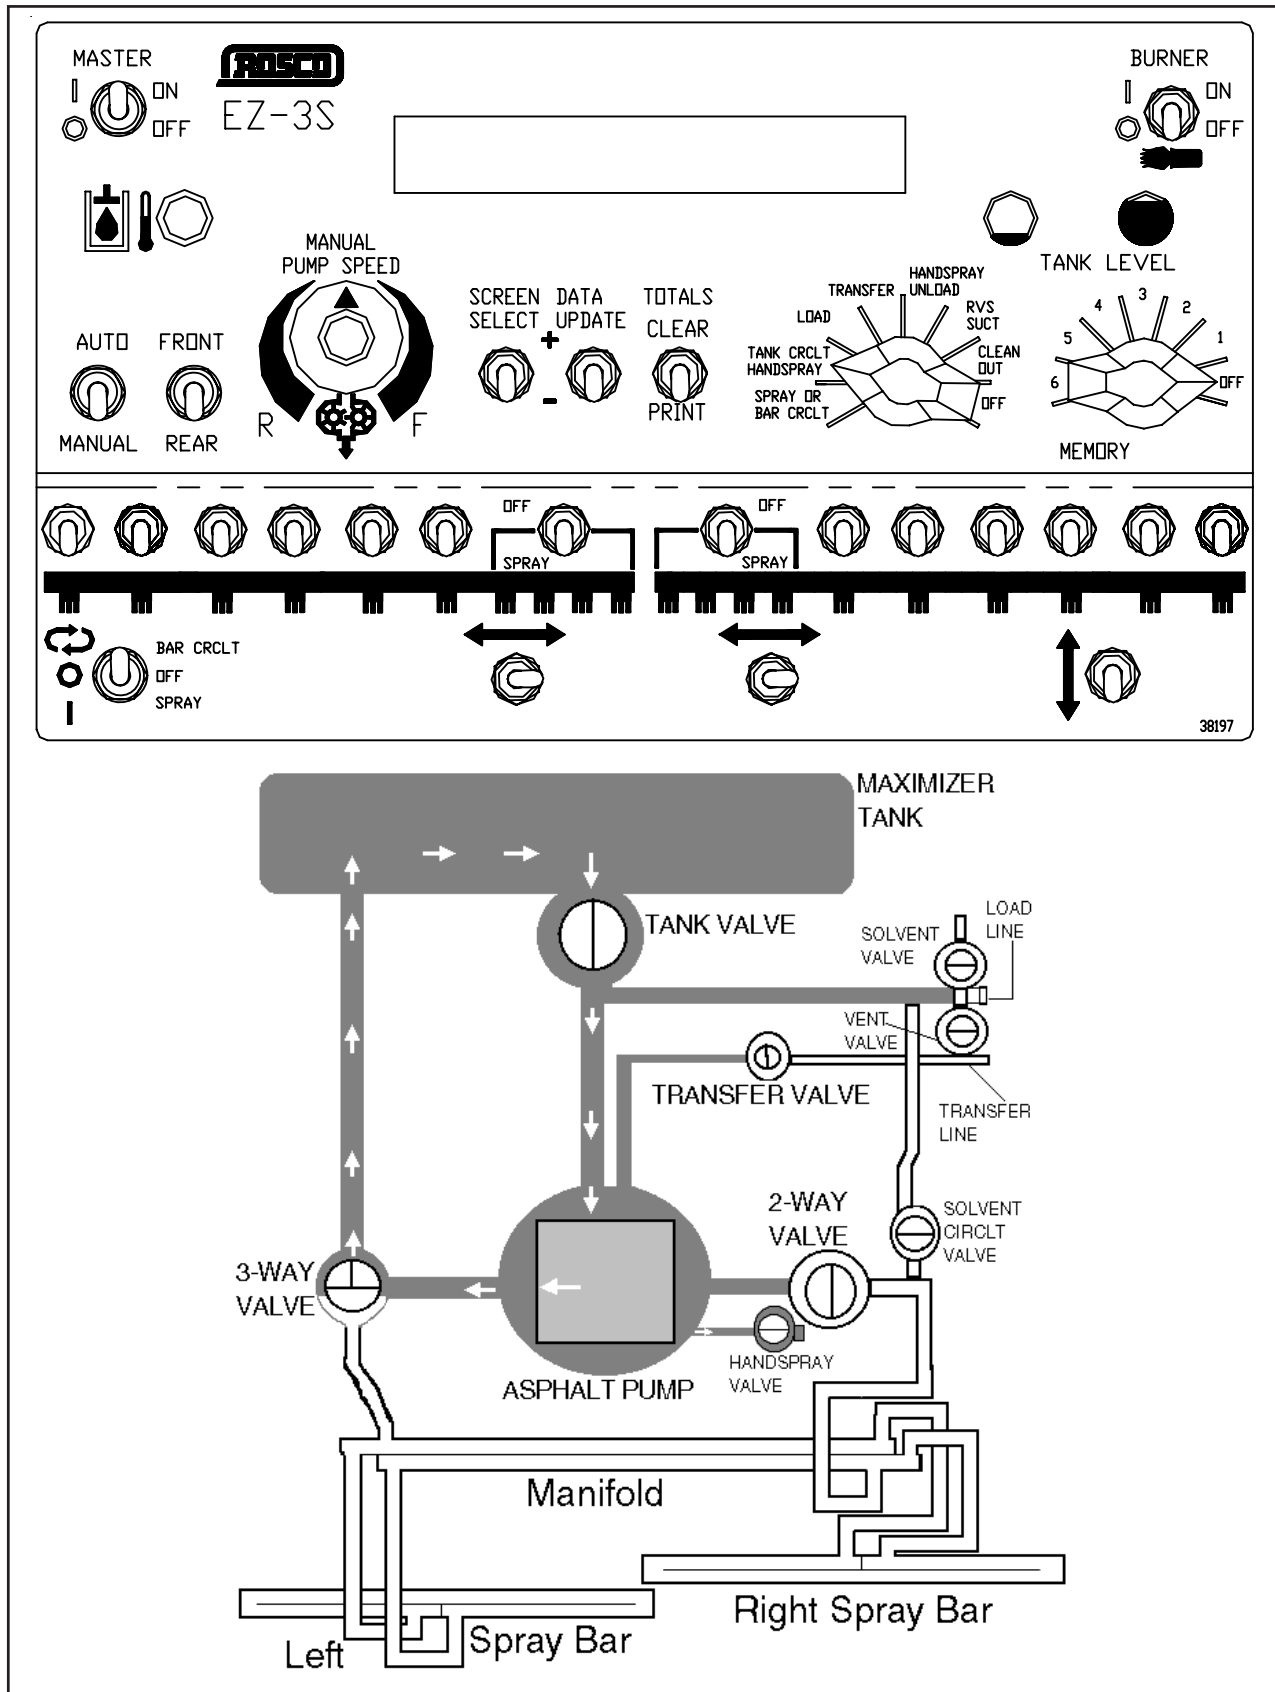
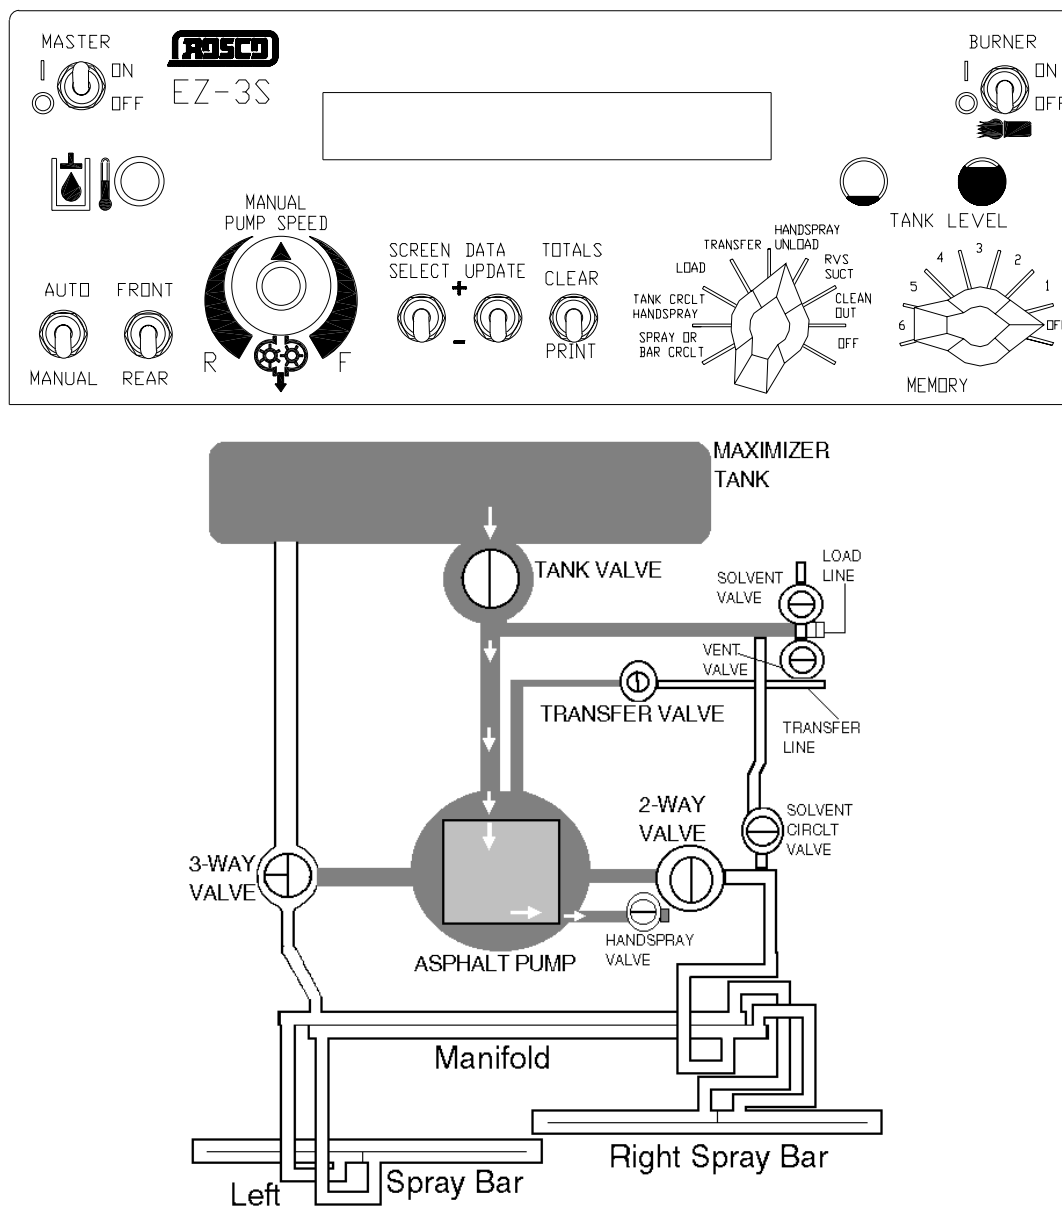
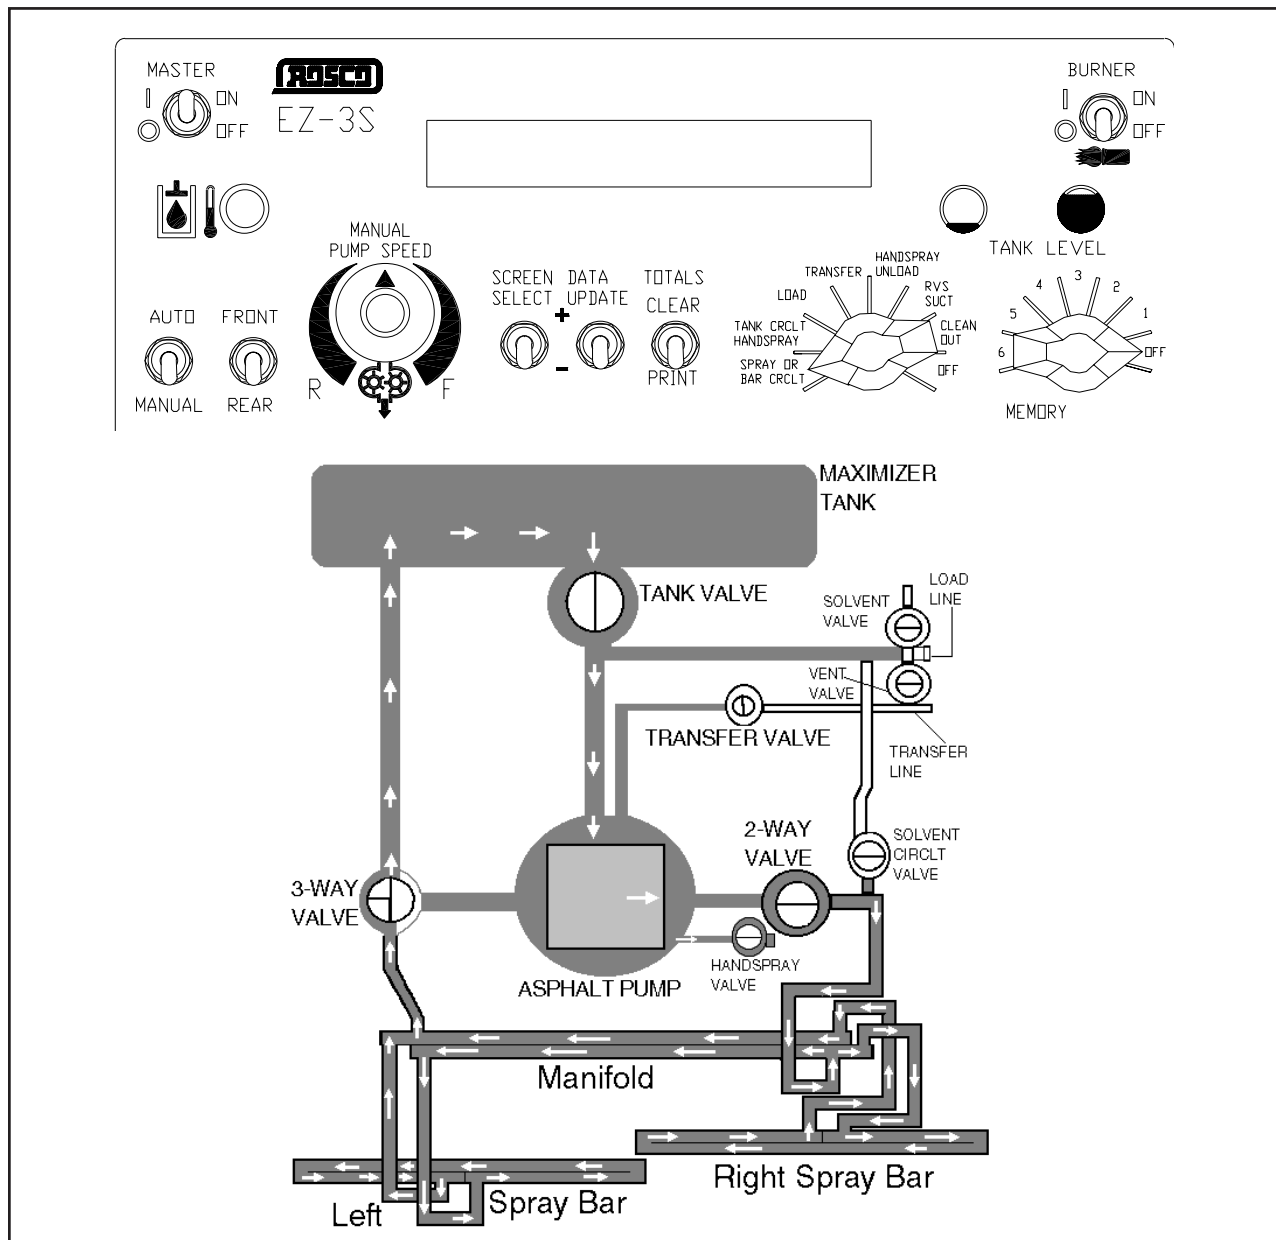

FIGURE 3-23. HANDSPRAY MODE (TANK CIRCULATE)
FIGURE 3-26. HANDSPRAY MODE (UNLOAD)
FIGURE 3-27. HANDSPRAY (SPRAY OR BAR CIRCULATE)
(See Figure 3-23)
4. Turn the Mode Selection switch to one of three modes to handspray: TANK CRCLT/HANDSPRAY (Figure 3-23), HANDSPRAY/UNLOAD (Figure 3-26), or SPRAY/BAR CRCLT (Figure 3-27). When the operator uses the TANK CRCLT mode to handspray, no asphalt will reach the spraybar while the handspray operation is being used. This is the accepted mode.
(See Figure 3-26)
(See Figure 3-27)
Some operators have found that using the SPRAY/ BAR CRCLT mode (Figure 3-27) allows better control of the handspray wand. SPRAY/BAR CRCLT mode will also eliminate any setup of material that is still in the spraybar.